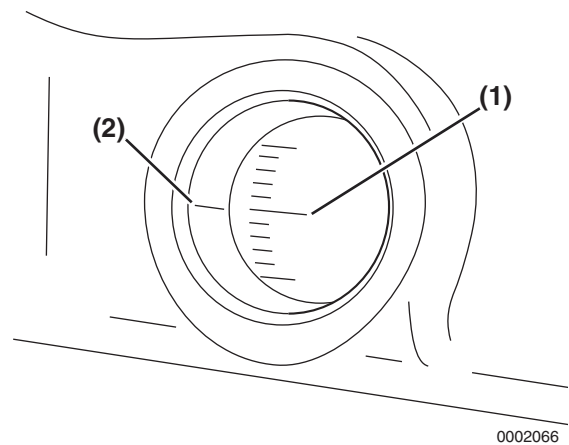

Figure 7-42
2. Rotate the flywheel until the target timing mark **(Figure 7-42, (1))** and the timing reference mark **(Figure 7-42, (2))** on the flywheel housing or back plate are aligned.